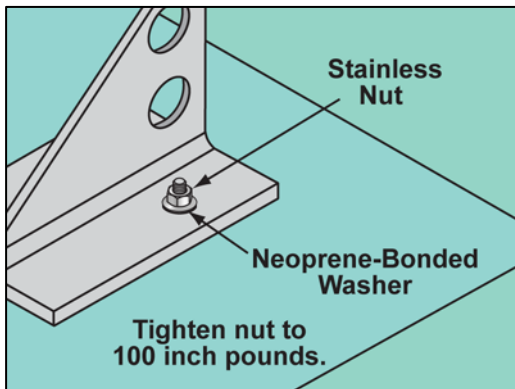

Figure 9
- A. Install snow guard block over the threaded studs. The block will be centered on the base plate when installed properly. **(Figure 9)**